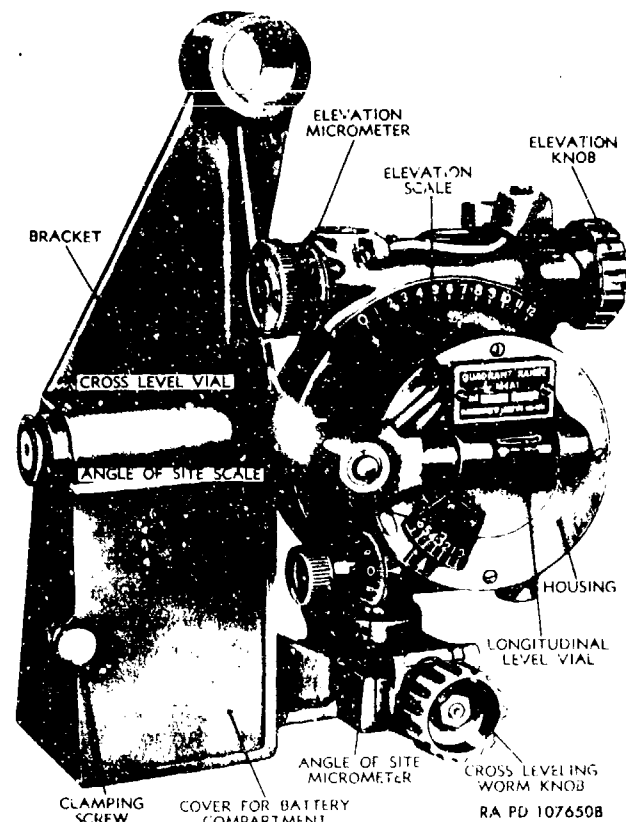

Figure 3-17. Range quadrant M4A1.
a. The range quadrant M4A1 (fig 3-17), mounted on the right side of the 105-mm howitzer cradle, provides a means for laying the weapon for elevation.